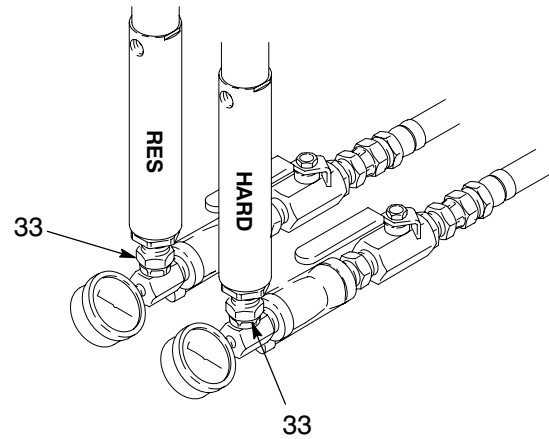

Fig. 20
Unscrew the swivel unions (33) from the bottom of the displacement pumps. See Fig. 20.